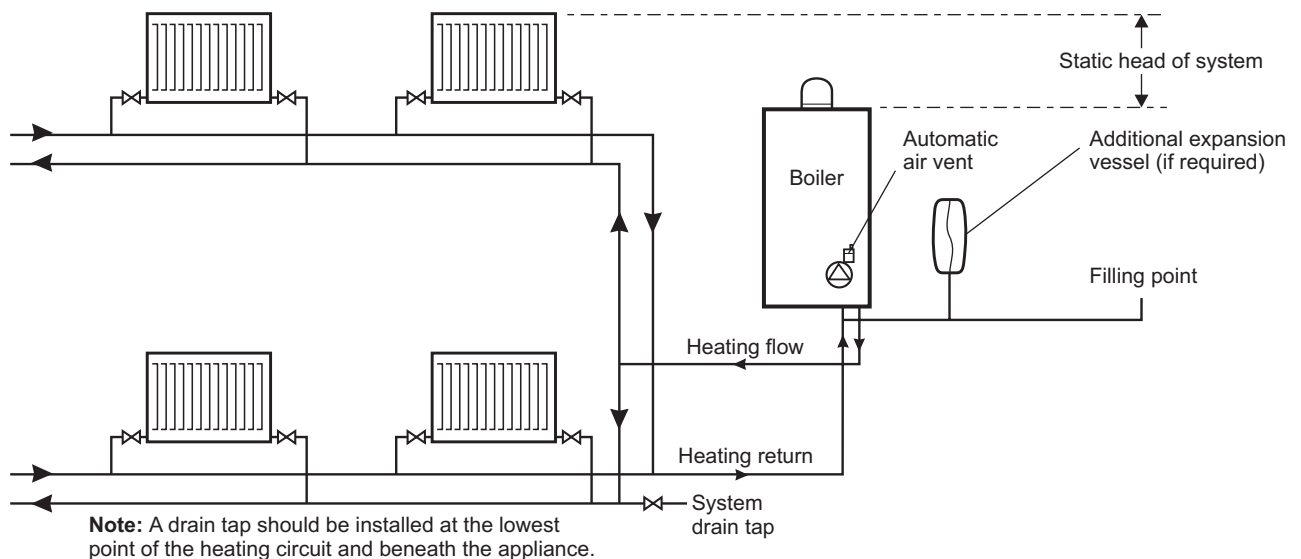

Fig. 4.5
#### 4.6 CENTRAL HEATING SYSTEM - Fig. 4.5
**System volume** - The expansion vessel incorporated into the boiler is suitable for a sealed heating system with a maximum water content of 80 litres (18 gal). Above 80 litres, consideration should be given to fitting an additional expansion vessel fitted in the position shown in Fig. 4.5. To check correct operation of the expansion vessel(s) the system pressure should not be more than 2.5 bar when the system is at maximum operating temperature (for further guidance refer to BS 7074:1).
The system design pressure (cold) should be set to 1.0 bar. This pressure is equivalent to a static head (see Fig. 4.5) of 10.2 metres of water.